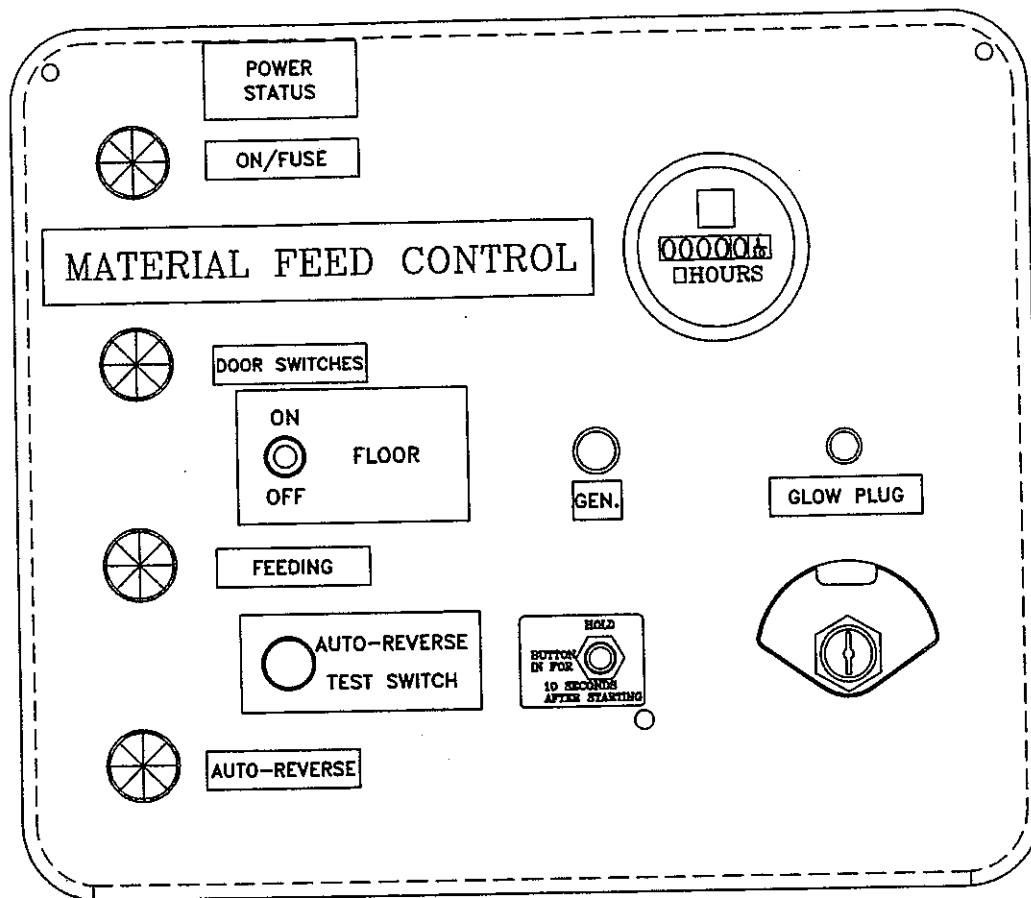

Figure 2
5. Check that the "ON/FUSE" and "DOOR SWITCH" lights are illuminated. If not, check the 10 AMP fuse in the control box (see Figure 2) and verify that the doors are closed at the air lock.
When the "start" button is pushed, the CR1 and CR2 relays in figure 2 are energized. This in turn energizes the "forward" solenoid on the solenoid valve, starting the air lock and the drag conveyor, assuming the conveyor toggle switch is "on". As material drops into the top of the rotary air valve, the pressure to turn the rotary air valve varies. If the pressure reaches the relief valve setting in the solenoid control valve, the oil is channeled through the relief to the hydraulic tank. Placed in this line is a normally open flow switch. Oil going to the tank through the relief valve closes the switch, actuating timer TR1.
## **Bark Blower with Power Status Lights: (See Figure 2)**